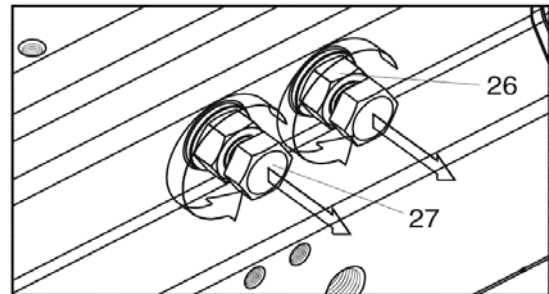

Fig. 4
2) Loosen both lock nuts (#26) and remove both open and close adjustment bolts (#27) from actuator cylinder (Fig. 4). Items #24 (O-Ring) and #25 (Washer_S.S.) will be part of this dis-assembly.